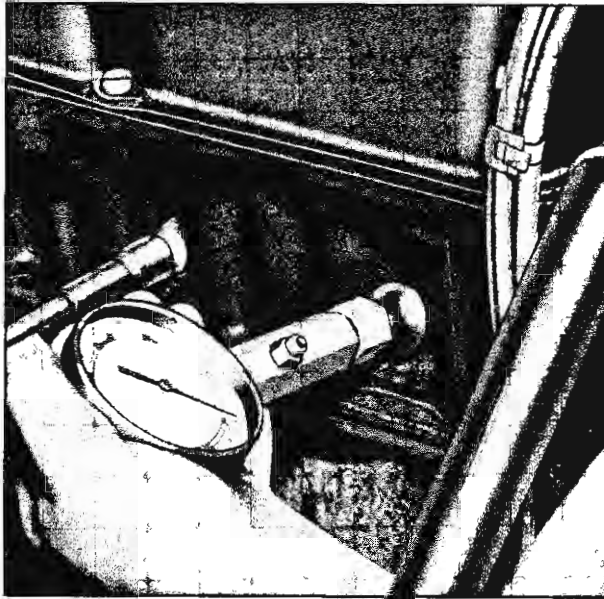

Fig. 3—Checking Compression
- b. Hook up starter remote control cable and insert compression gauge firmly in spark plug port (fig. 3).